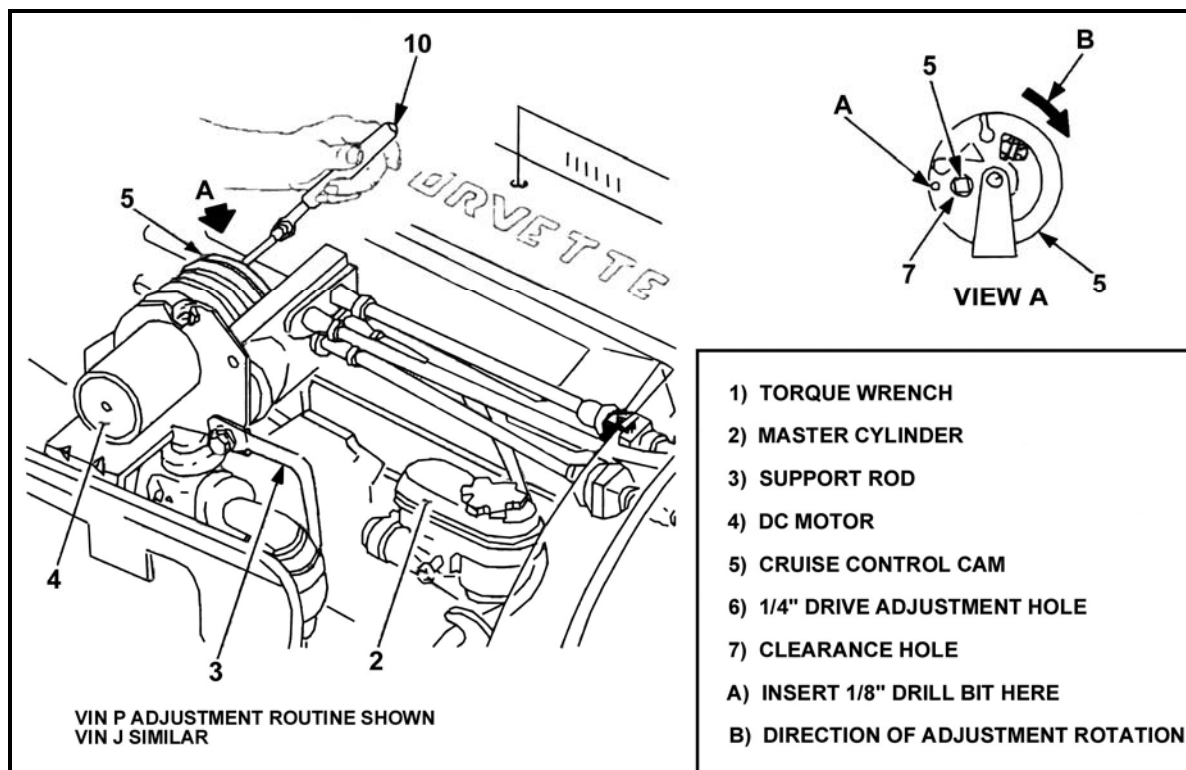

Figure 3
2. Insert a 1/8" drill bit into the adjuster assembly alignment hole (Figure 3).
4. Insert the 1/4" drive torque wrench with extension through the cruise control cam into the accelerator pedal cam (Figure 3).